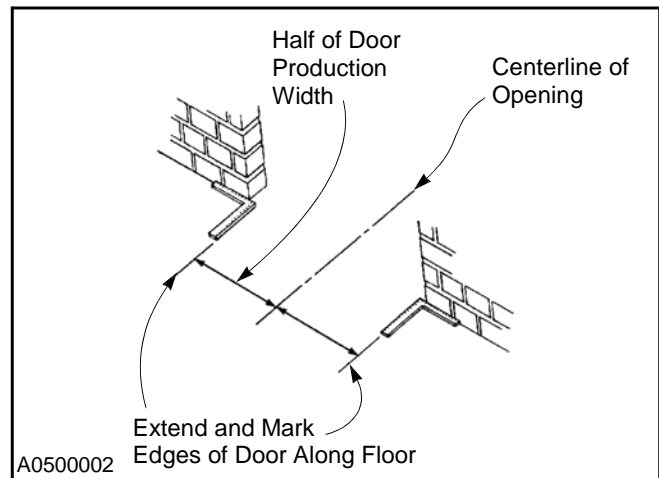

Figure 9
2. Using the centerline as a reference point, lay out and mark half of the door's production width along the floor. (See Figure 9.)